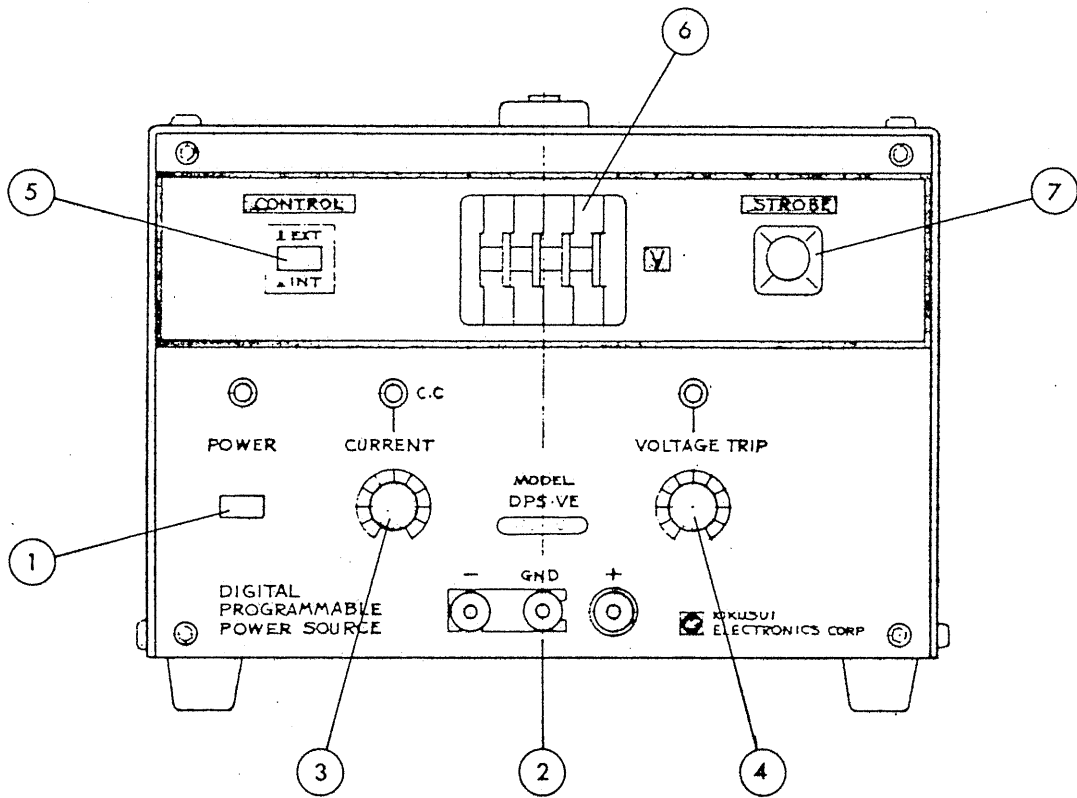

Figure 3-1
3.1 Description of Front Panel (See Figure 3-1.)
① POWER switch: